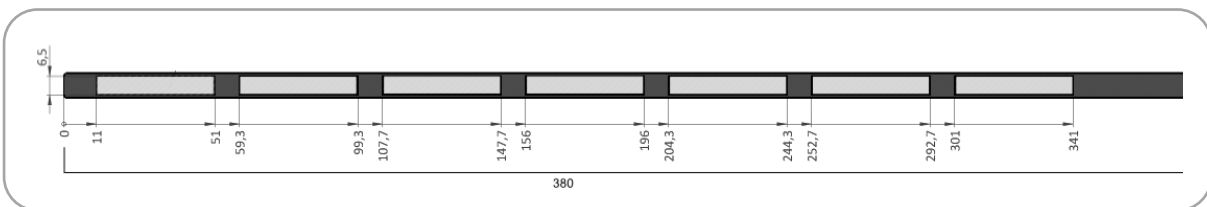

Figure 14: Labelling strip
- The dimensions (given in mm) are shown in Figure 14. There are seven printable areas each measuring 6.5 mm in height and 40 mm in length. The gap on the left side is 11 mm and the gaps between the areas are 8.3 mm.